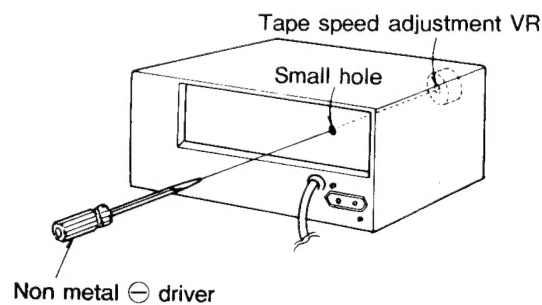

Fig. 1
Tape speed can be adjusted through the small hole on the backside of main case by the \ominus screw driver (non metal type) as shown in fig. 1.
6. If measured value is not within the standard value, adjust it by using the tape speed adjustment VR shown in Fig. 1.